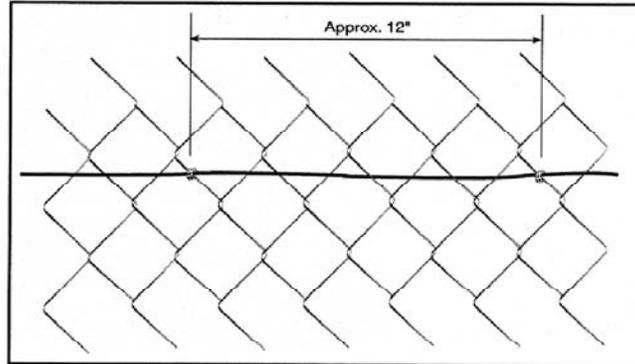

Figure 3. Cable Tie Installation
- Attach the sensor cable to the fence at approximate 12-inch intervals with black UV cable ties as shown in Figure 3. Use **ONLY** the approved black UV-protected cable ties.